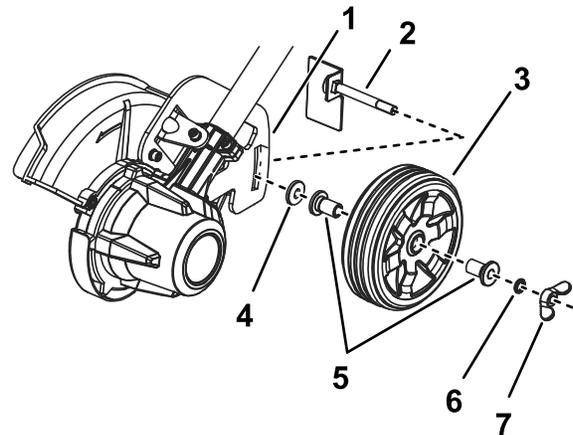

Figure 15
2. Remove the wing nut, washer, bushings, wheel, rubber washer, and wheel axle from the depth-of-cut track on the edger (Figure 15).
4. Insert the wheel axle through the track with the tab facing down as shown in Figure 15.
5. Install the rubber washer, bushings, wheel, small washer, and wing nut to the axle (Figure 15).